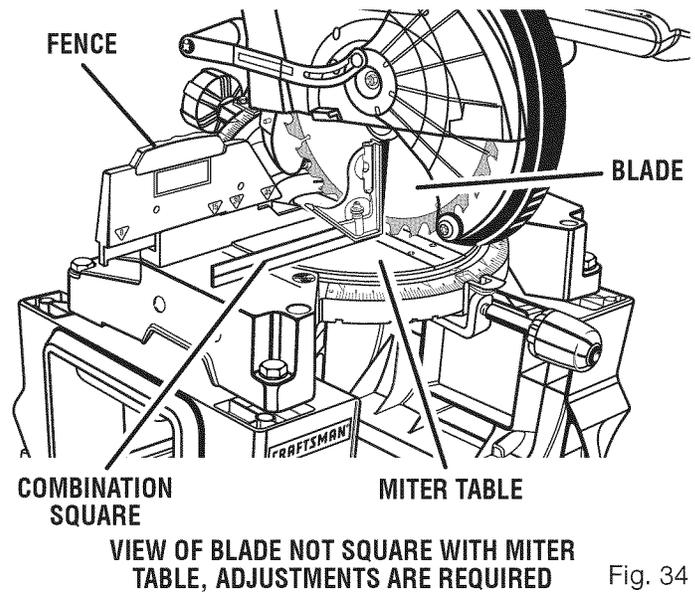

Fig. 34
- If the top or bottom of the blade angles away from the square as shown in figures 34 and 36, adjustments are needed.